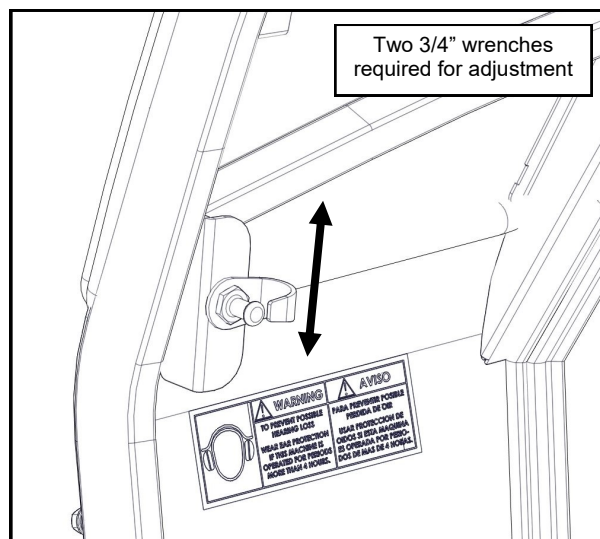

Fig. 21.3a (Door Striker Pin Adjustment)
- Adjust the striker pin on the side frame vertically - See Fig. 21.3a